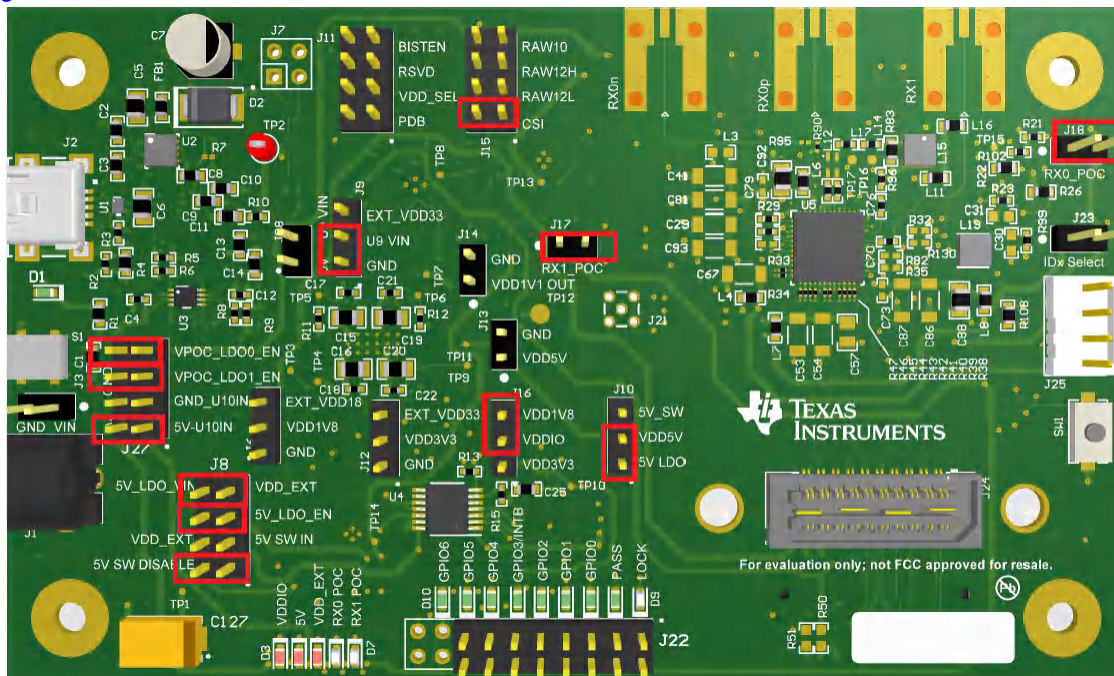

Figure 3-32. DS90UB954-Q1EVM (or variant) With Highlighted Jumpers
10. On the DS90UB954EVM (or variant), ensure that all jumpers are correctly covering the headers highlighted in Figure 3-32.